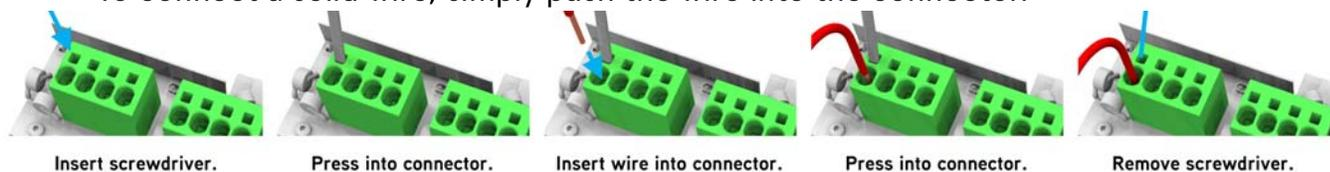

Figure 5-5: Using the spring clamp connectors
Figure 5-5 displays the general process of connecting an insulated wire to a spring clamp connector. The detailed procedure is as follows:
4. See *Figure 5-5*. Connect the wire to the connector as follows: